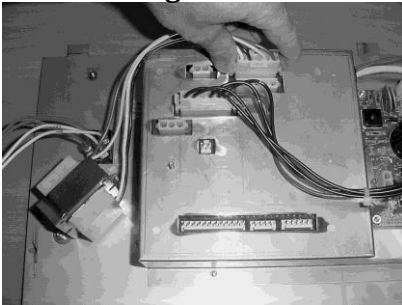

Figure 2-59
4. Pull the transformer connectors from back of panel. Figure 2-59.